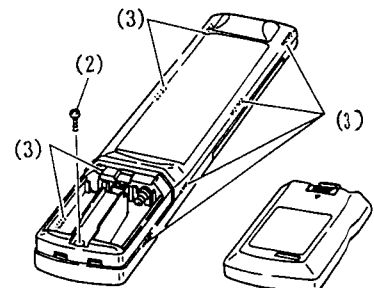

Fig. 3-6 Remote Controller
6. Remote Controller (Fig. 3-6)